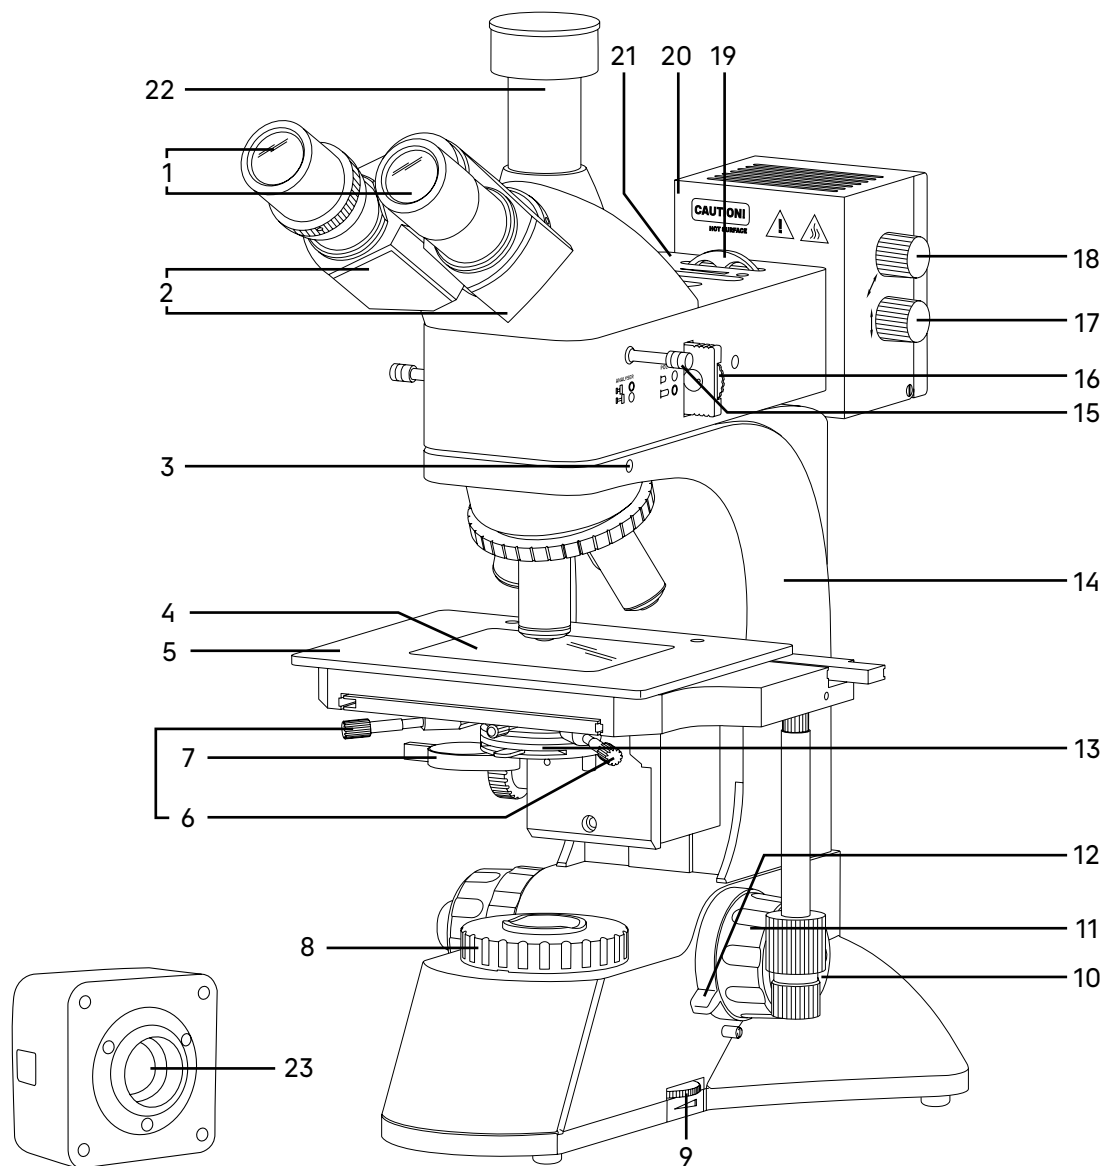
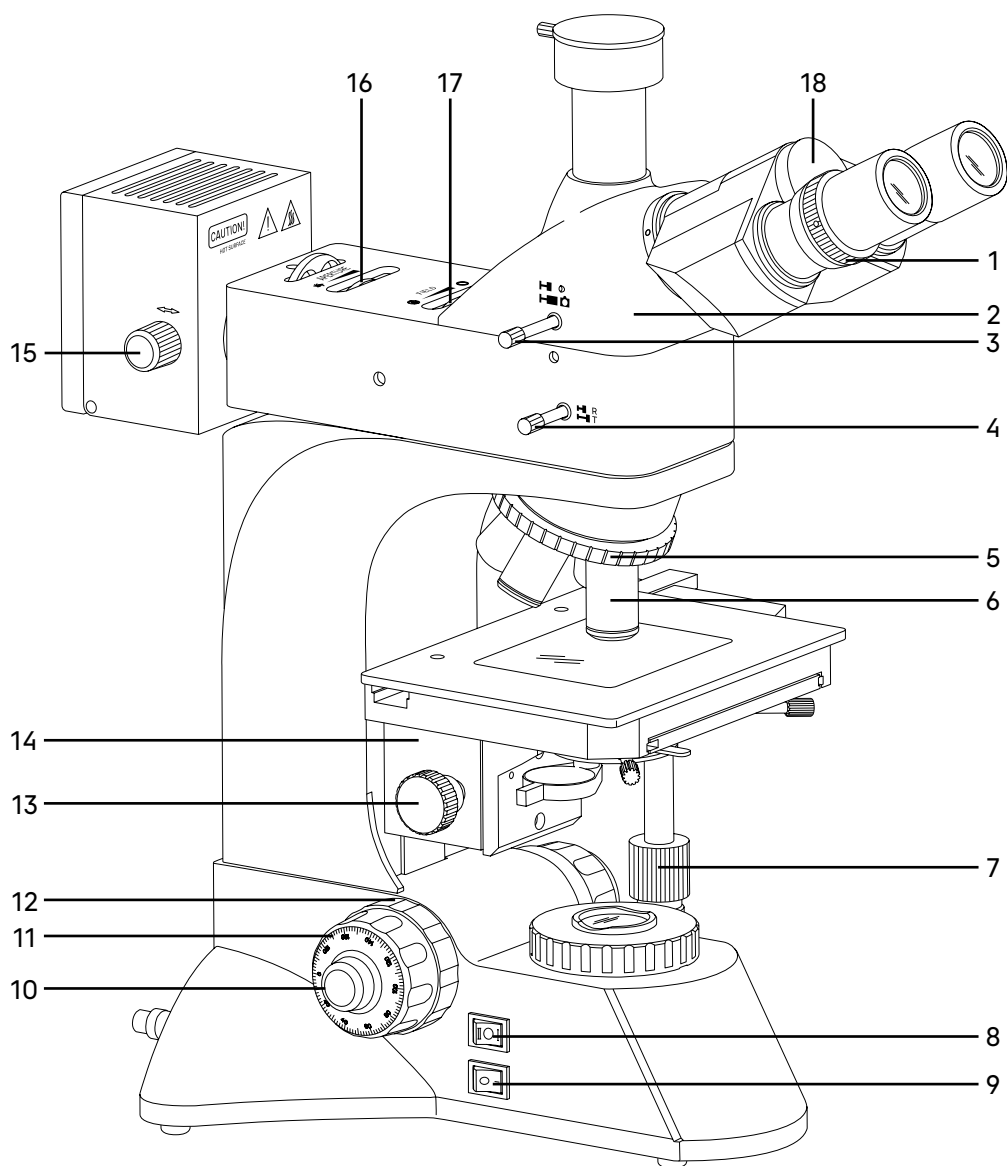

Fig. 1. MAGUS Metal D600 Microscope. View from the right
Fig. 2. MAGUS Metal D600 Microscope. View from the left
The general view of the microscope is given in Fig. 1, 2 and 3.
Parts attached to the stand 14 (Fig. 1):
- revolving nosepiece 5 (Fig. 2) with objectives 6 (Fig. 2)
- stage 5 (Fig. 1)
- condenser mount 14 (Fig. 2).
There is an ON/OFF switch 9 (Fig. 2) on the left side of the base. The power is on when the switch is in "–" position. The power is off when the switch is in "0" position.
There is also a transmitted/reflected light switch lever 8 (Fig. 2) on the left of the base. Position "I" corresponds to the transmitted light illuminator, position "II" – to the reflected light illuminator.
There is a brightness adjustment ring 9 (Fig. 1) on the right side of the base.
Focusing on the specimen is achieved by adjusting the height of the stage 5 (Fig. 1). Coarse focusing is performed by rotating the coaxial knobs 11 (Fig. 1 and 2) on both sides of the microscope stand.
Fine focusing is performed by rotating the knobs 10 (Fig. 1 and 2) on both sides of the microscope stand. Fine focusing allows for more precise focusing on the specimen and re-focusing the microscope to get an accurate image resolution when changing objectives.
The coarse focusing tension adjusting knob 12 (Fig. 2) is the ring between the stand and the coarse focusing knob on the left side. The ring adjusts the coarse focusing tension so that the tension is comfortable for the user, but the stage does not lower spontaneously during operation.
The coarse focusing lock knob 12 (Fig. 1) is located on the right side. Once the coarse focusing is completed, we recommend rotating the knob clockwise as far as it will go. This secures the coarse focusing position to allow for rapid re-focusing after the specimen is changed.
The microscope head 2 (Fig. 2) provides the visual observation of the specimen image.
The interpupillary distance is adjusted by rotating the eyepiece tubes 2 (Fig. 1) in the range of 48–75mm. The distance between the eyepieces matching the observer's interpupillary distance is marked on the adjustment scale 18 (Fig. 2) on the microscope head.
The diopter adjustment on the left eyepiece tube is intended to compensate for the observer's ametropia. The axial position of the eyepiece is adjusted by the ring 1 (Fig. 2). The second eyepiece tube is fixed.
A C-mount 1x adapter is installed in the trinocular tube 22 (Fig. 1) of the microscope head to fix the camera (video eyepiece). The camera is used to transmit the image to a computer screen or monitor/TV. You can switch the light path to the trinocular tube using the lever 3 (Fig. 2). The lever has two positions: 100/0 and 0/100.
The microscope kit includes eyepieces 1 (Fig. 1). The eyepieces have long eye relief and are designed to work with or without glasses.
Revolving nosepiece 5 (Fig. 2) allows for the installation of five objectives 6 (Fig. 2). Objectives are changed by rotating the knurled ring of the revolving nosepiece until the objective fits into place.
The X/Y stage 5 (Fig. 1) allows for moving the specimen in two mutually perpendicular directions using the knobs 7 (Fig. 2) located on the same axis.
Stage size: 210mm×140mm. The stage moving range is 75mm in X-axis direction and 50mm in Y-axis direction. The glass stage plate 4 (Fig. 1) allows working with transparent and translucent objects.
The condenser 13 (Fig. 1) is installed using the mount 14 (Fig. 2) under the microscope stage. It has screw type fastening. You can move the condenser along the optical path of the microscope using the condenser focus knob 13 (Fig. 2) located on the left of the observer under the stage. The condenser focusing range is at least 13mm.
The condenser is centered in the optical path using two screws 6 (Fig. 1).
The aperture diaphragm is adjusted (opened/closed) by the knob on the condenser 13 (Fig. 1). For best image quality, the aperture diaphragm of the brightfield condenser should be closed to approximately 1/3 of the objective exit pupil diameter.
There is a frame with a flip-down lens 7 (Fig. 1) attached to the brightfield condenser from below, which is used to improve illumination and obtain a clearer image of the specimen. When 4x objectives are used, it is recommended to introduce it into the optical path.
The bulb is powered from the AC power supply through a power source built into the stand. The illuminator is switched on by means of an ON/OFF switch 9 (Fig. 2) and a switch 8 (Fig. 2). The brightness is adjusted using the ring 9 (Fig. 1).